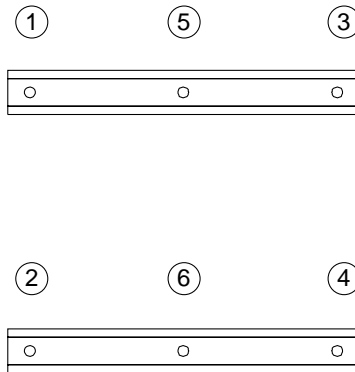

FIGURE 2-1 Tightening Pattern for the SBus I/O Module
- a. Tighten the captive screws in the sequence shown in FIGURE 2-1 until they touch the metal plate.
- b. Tighten each captive screw in the sequence shown in FIGURE 2-1 an additional 1/2 turn.
- c. Tighten the captive screws to a final torque of 0.68 Nm (6.0 inch pounds) in the pattern shown in FIGURE 2-1.